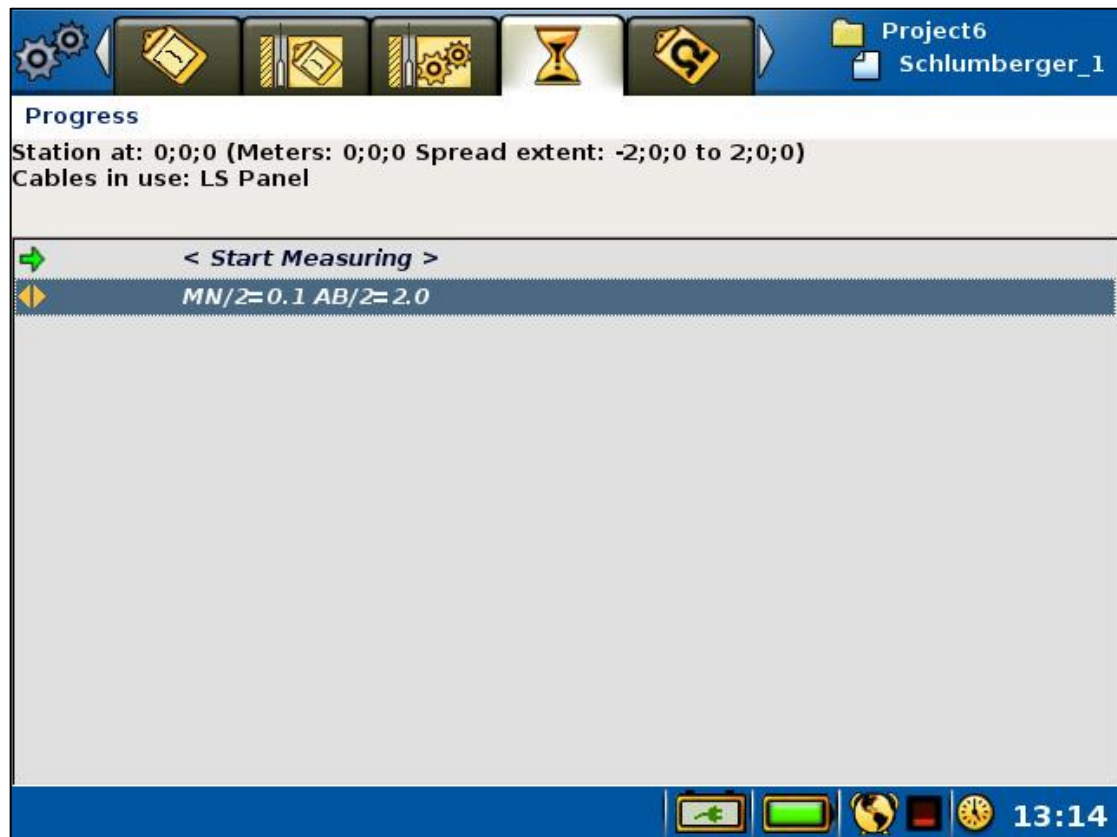
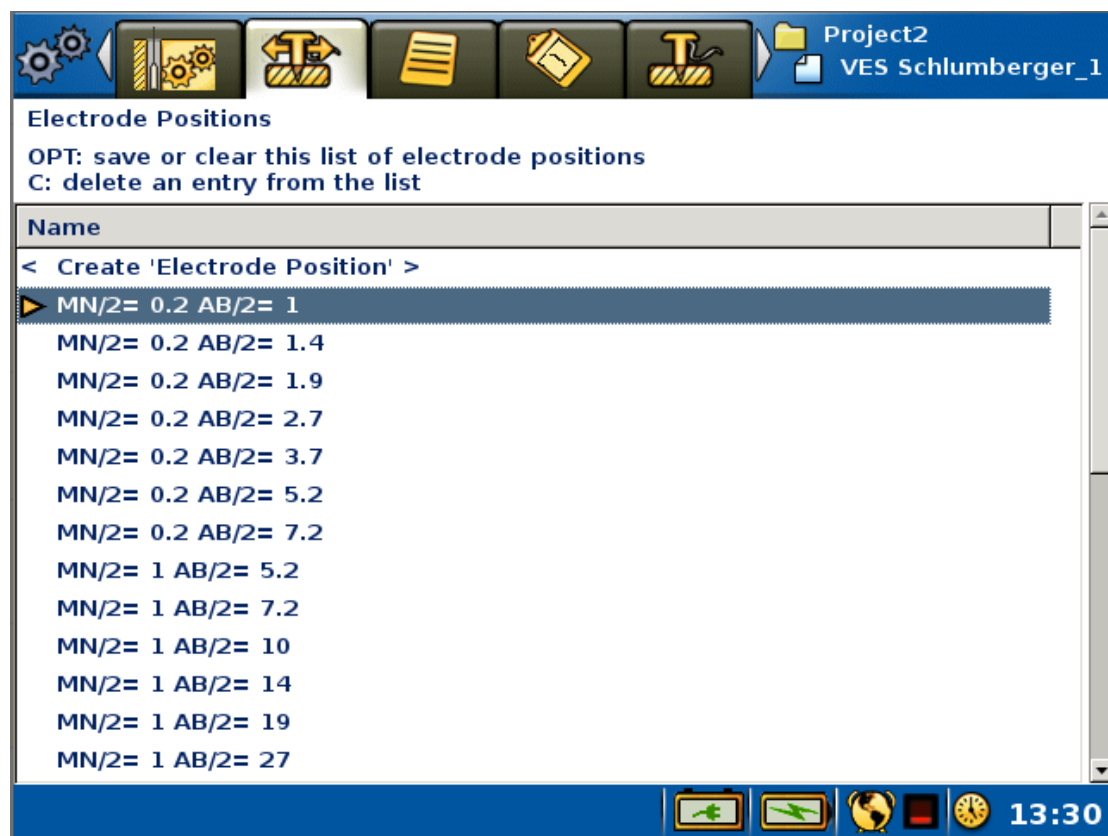

Figure 72 The Progress Page in VES mode
Figure 73 *Electrode Positions Page in VES mode. Highlight bar (blue) and active electrode position marker (yellow) both on the second row*
In VES mode, with a Schlumberger protocol selected, a line with a “MN/2 and AB/2” electrode position will be shown on the *Progress Page* (Figure 72). This is the active electrode position, and it can be changed using the left and right arrows. It is thus possible to step through all available electrode positions that are pre-defined in the protocol file; measurements do not necessarily need to be undertaken at every interval.
The *Electrode Positions Page* (Figure 73) lists all the electrode positions from the protocol file. The yellow arrow is placed on the line that corresponds to the active electrode position. This electrode position is the one that is shown on the second row of the *Progress Page* (Figure 72). The *Electrode Positions Page* will be empty when the instrument is not in VES mode.
- Navigate to the “Measure/Electrode Positions” Page (Figure 73)